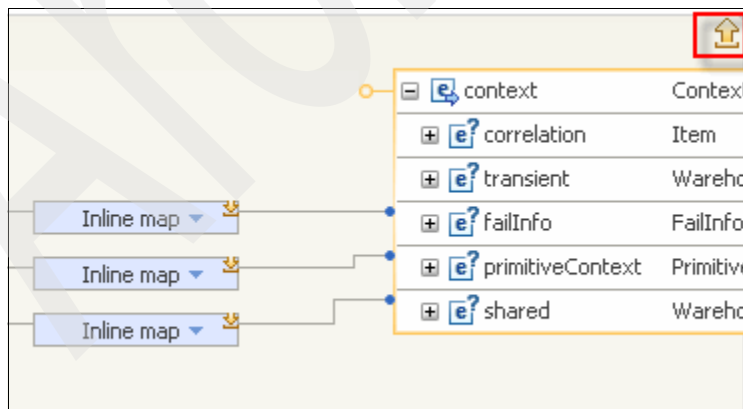

Figure 6-38 Moving back navigating the Inline Maps definitions
- e. Return to the previous map by clicking the arrow in the upper right corner of the contexts Inline map rectangle (shown in Figure 6-38).